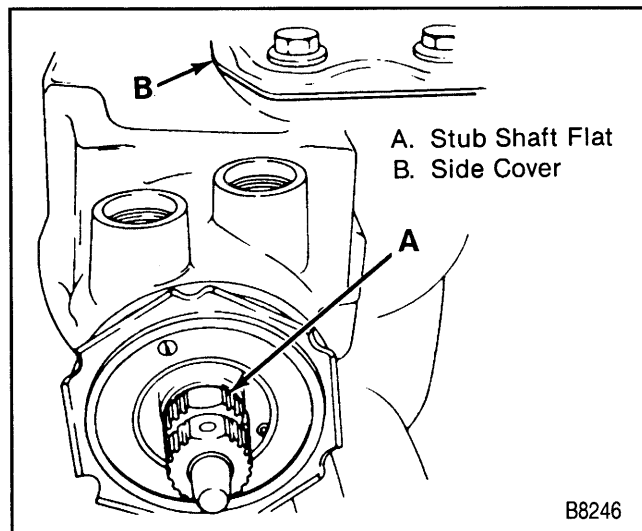
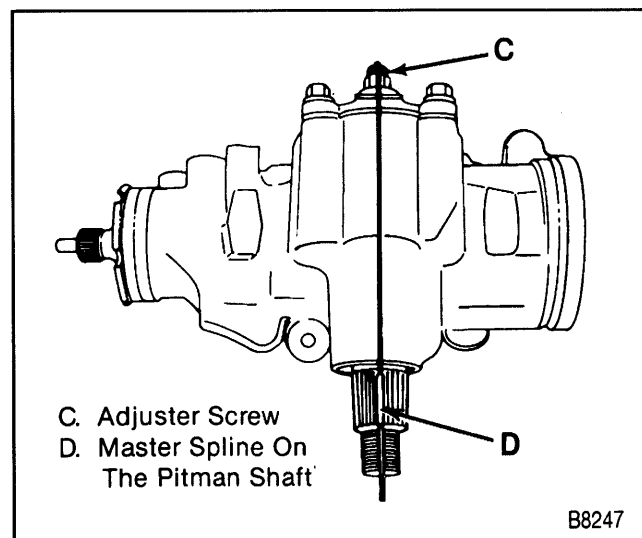

Figure 10—Aligning the Stub Shaft
Figure 11—Aligning the Pitman Shaft Master Spline
- When the gear is centered, the flat on the stub shaft should face upward and be parallel with the side cover (figure 10). The master spline on the pitman shaft should be in line with the adjuster screw (C) (figure 11).